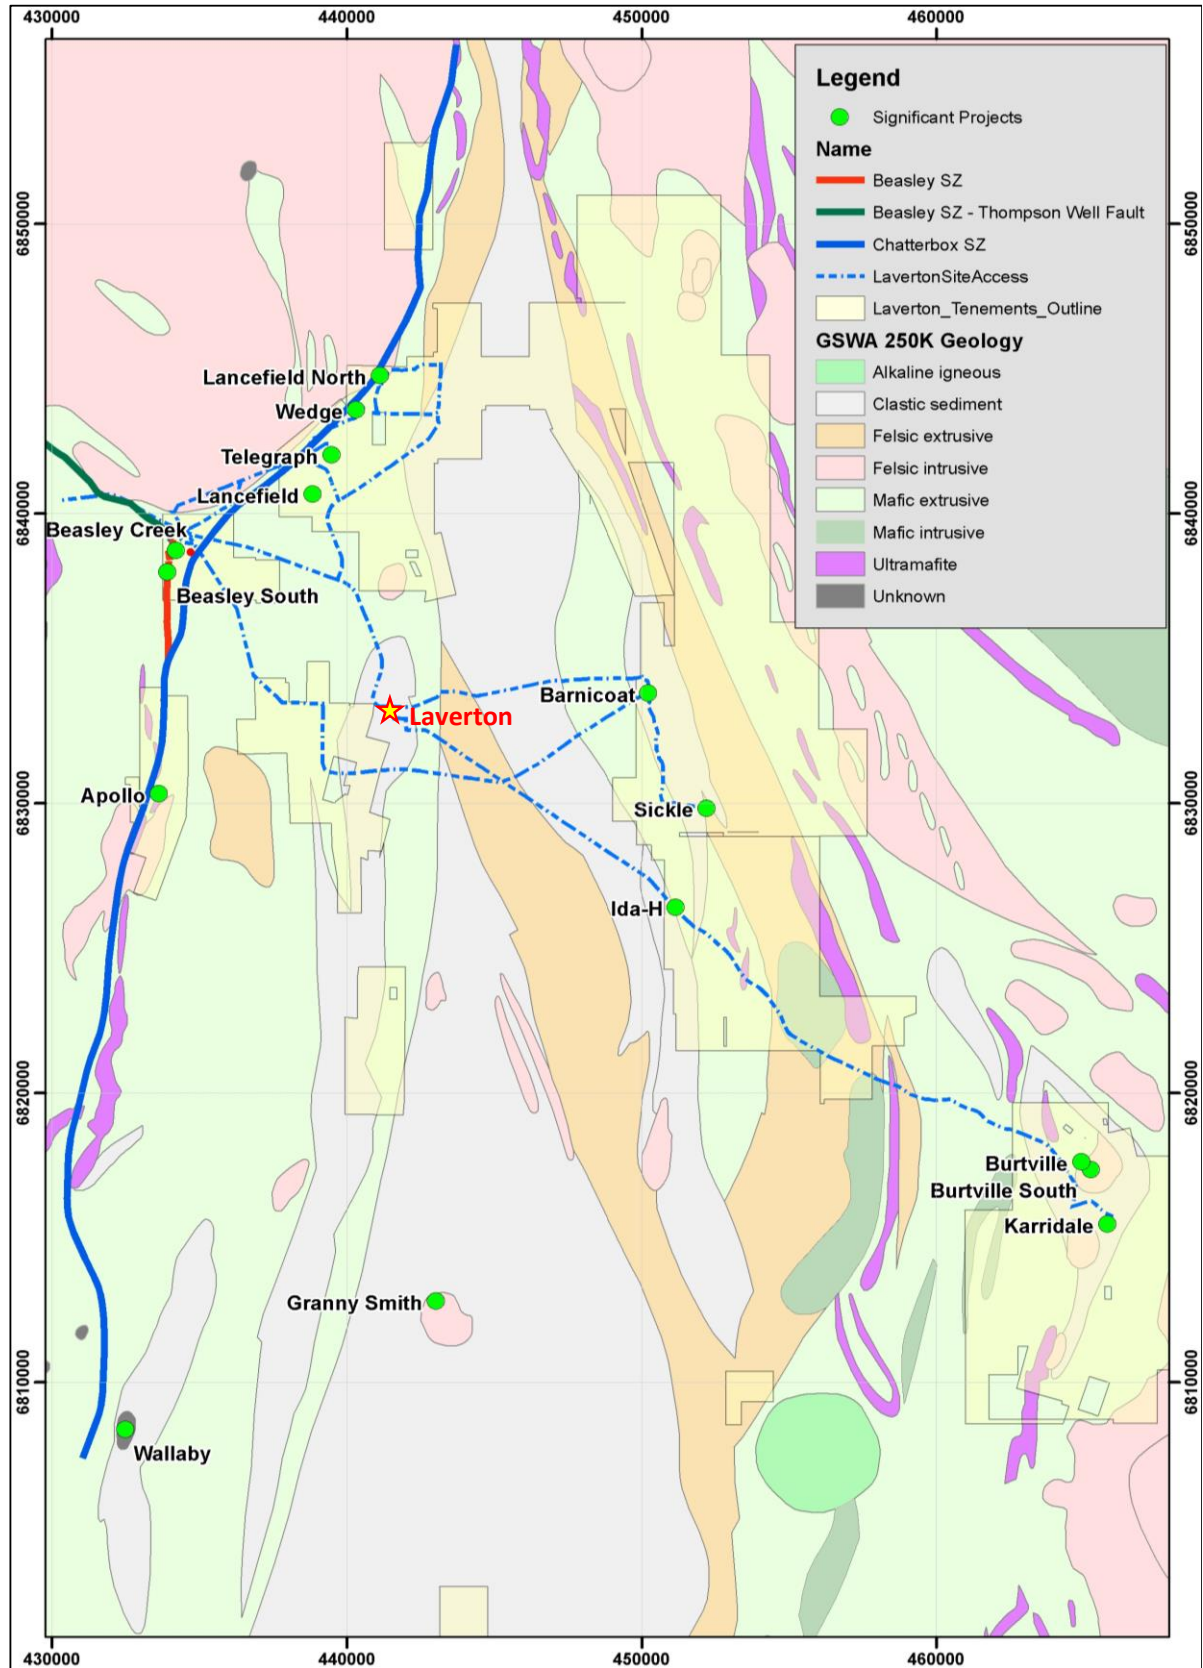

Figure 2: Geology map of Focus' Laverton Project
At the northern end of the Beasley Creek OP, the Beasley SZ wraps onto the north-west striking subvertical McIntyre Fault Zone (MFZ). The McIntyre FZ is strongly mineralised with a south-easterly plunge of mineralisation. The McIntyre FZ crosses the Beasley SZ and is present in both the hanging wall and footwall of the Beasley SZ. The McIntyre FZ is also interpreted to act as a feeder to seven shallow south-east dipping mineralised structures located in the immediate footwall of the Beasley SZ (Figure 3). These shallow-dip mineralised structures are truncated on intersection with the steeply south-west dipping Beasley-Thompson Well (BTW) Fault Zone. The BTW Fault Zone continues further to the west north-west and eventually curves to the north-west to wrap the western side of the Mt Margaret Anticline (Figure 2 and 3).
The southern part of the pit increases in width with a west south-west striking kink along the cross-cutting, moderate south south-east dipping Fitton FZ (FZ). The mineralised Fitton FZ creates a 140m apparent dextral offset on the Beasley SZ. South of the Fitton FFZ, the Beasley SZ continues to strike south with moderate easterly dip and is structurally offset another two times over 400m strike between Beasley Creek and Beasley Creek South. The far south extension of the Beasley SZ is interpreted to merge with the Chatterbox Shear Zone (Figure 2).